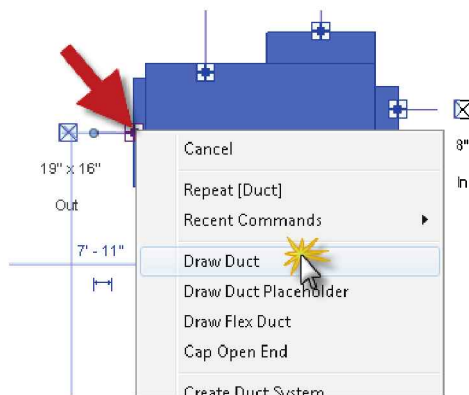

FIGURE 13-4.7 Right-click on connector
25. Select **Draw Duct** from the pop-up menu (Figure 13-4.7).